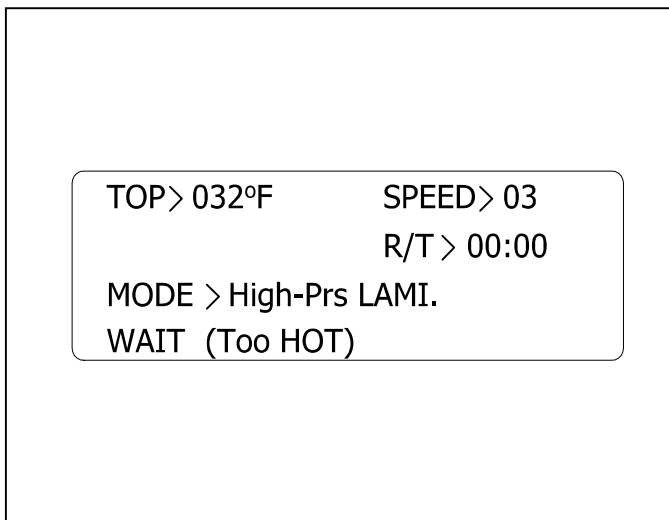

Fig. 8
(Figure 8) Illuminates when the laminator is plugged in and **POWER ON/ OFF** is in the on, (I), position. Display settings for top heater, bottom heater, speed, run time, mode and ready/wait indicator.